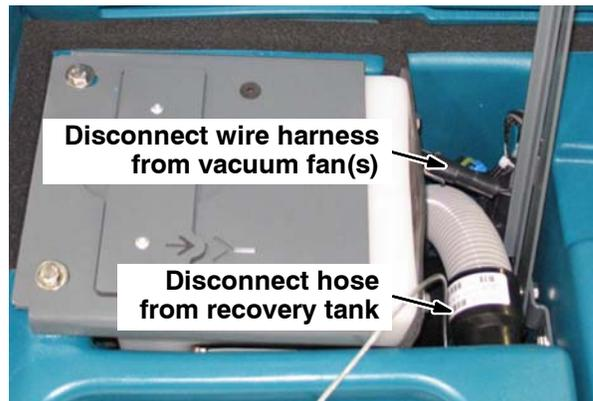

FIG. 1
1. **Machines equipped with the Single Vacuum Fan Kit only:** Disconnect the wire harness from the vacuum fan. Refer to Fig. 1.
Machines equipped with the Heavy Duty Vacuum Fan Kit only: Disconnect the wire harness from both vacuum fans. Refer to Fig. 1.
2. Disconnect the hose from the recovery tank. Refer to Fig. 1.
- Reconnect the hose to the recovery tank and the wire harness to the vacuum fan(s). Refer to Fig. 1.